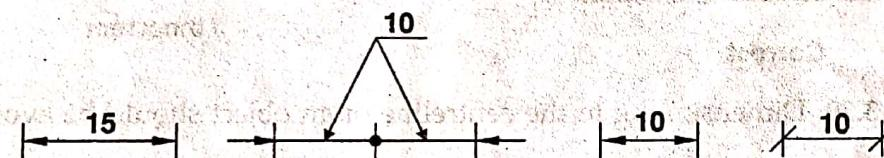

Fig. 3.18 Different ways of dimensioning of length when the space is insufficient
- (vii) Arrow-heads should normally be drawn within the limits of the dimensioned feature. But when the space is too narrow, they may be placed outside. A dot may also be used to replace an arrowhead. Sometimes due to lack of space, the dimension figure may be written above the extended portion of the dimension line. See Fig. 3.18.